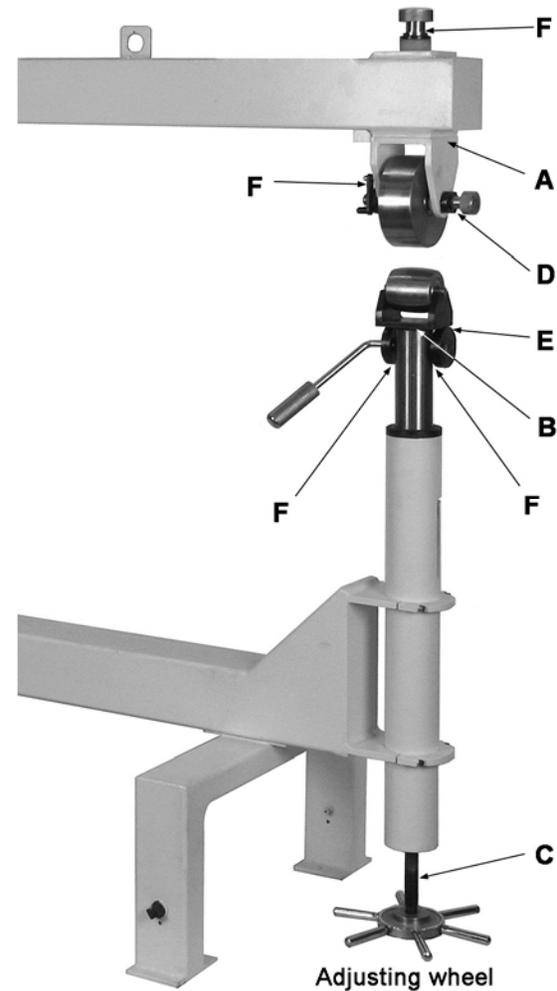

Figure 10
3. Check the distance between bottom of the *upper wheel* (D) and top of the *lower wheel* (E). They should be about an inch apart. To adjust the distance, rotate the *adjusting wheel* (shown in Figure 10) to raise or lower the *lower wheel* (E).
6. Rotate the *adjusting wheel* (shown in Figure 10) counter-clockwise until there is light pressure on the workpiece.
Refer to Figure 10: